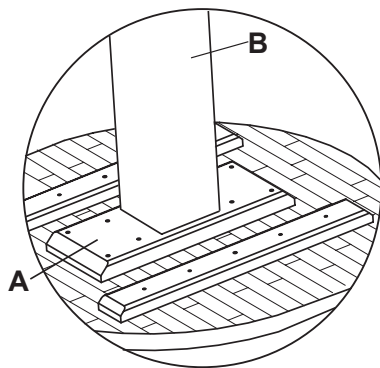
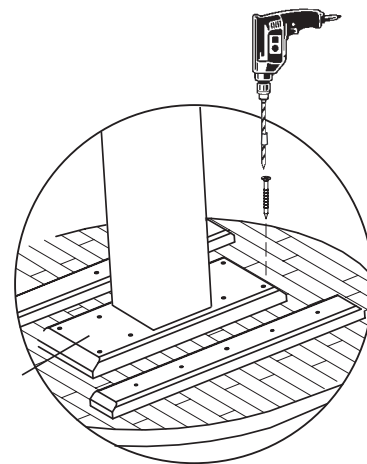

Fig. 4
Fig. 4b
4. Place #12 x 2" Pan Head Screws (D) into the holes of the Top Support (A) and tap them lightly with a hammer to center punch or mark the screw locations on the bottom side of the table top. See Figures 4 and 4a. Move the table base away and, using a 1/8" drill bit (or smaller), drill the eight marked pilot holes. Drill the holes 3/4" deep. To prevent accidentally drilling through the table top, mark the drill bit with a piece of tape 3/4" from the tip of the drill bit. Stop drilling when the edge of the tape meets wood. See Figure 4b.
5. Put the table base back into position and solidly tighten the #12 x 2" Pan Head Screws (D) into the table top. Note: If you rub a bit of soap on the threads, it will help the screws to drill in more easily.